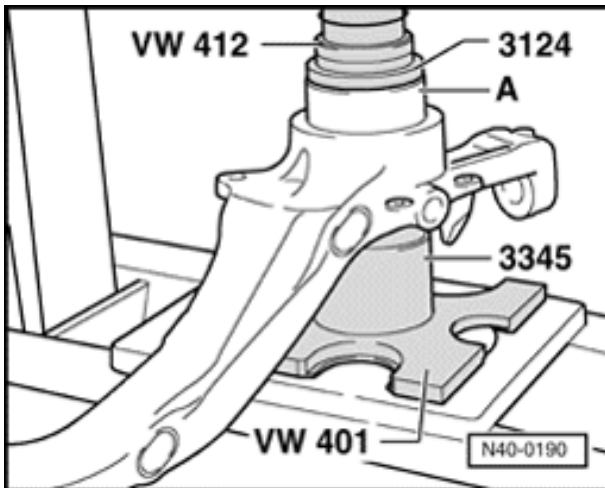

Fig. 8 Pressing wheel bearing into wheel bearing housing with 82 mm diameter
- ◆ Pressing in 82 mm dia. ⇒ Fig. 8